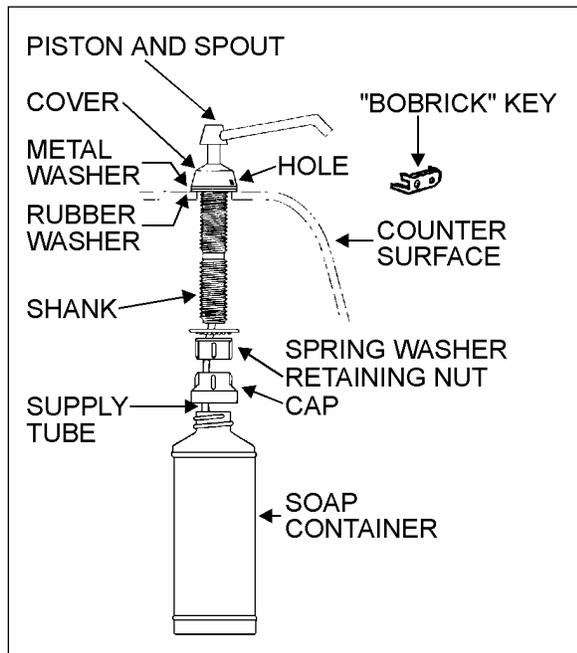

FIGURE 53: LIQUID SOAP DISPENSER 23039
2. Insert projection at end of "BOBRICK" key into rectangular hole in cover (Figure 53). Push straight in. While holding "BOBRICK" key in, turn cover counterclockwise about 1/8 turn.